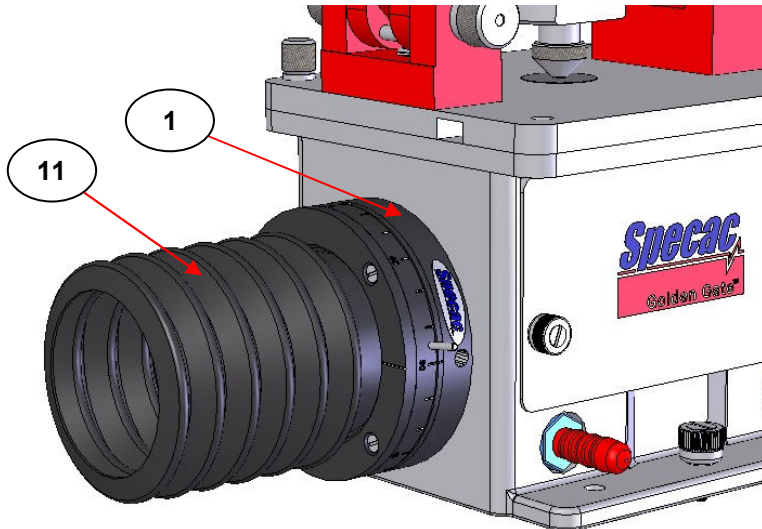

Fig 7. Purge Bellow Fitted to the GS12510 Series Rotator Mount
If it is necessary to do so under such operating conditions, a purge bellow (11) can be fitted over the circumference ring boss (4) on the front of the rotator mount (1) to bridge any air gap in the spectrometer sample compartment on the side of the optical unit where the GS12510 Series rotator mount with polarizer has been affixed. A purge bellow (11) can be fitted to the other aperture port on the optical unit in the usual way to establish a condition for purging. (See Fig 7.)